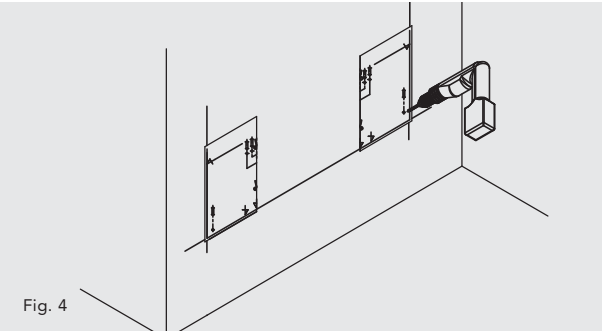

Fig. 4
- Through the template mark and drill the lower bracket fixing points (see fig. 4).